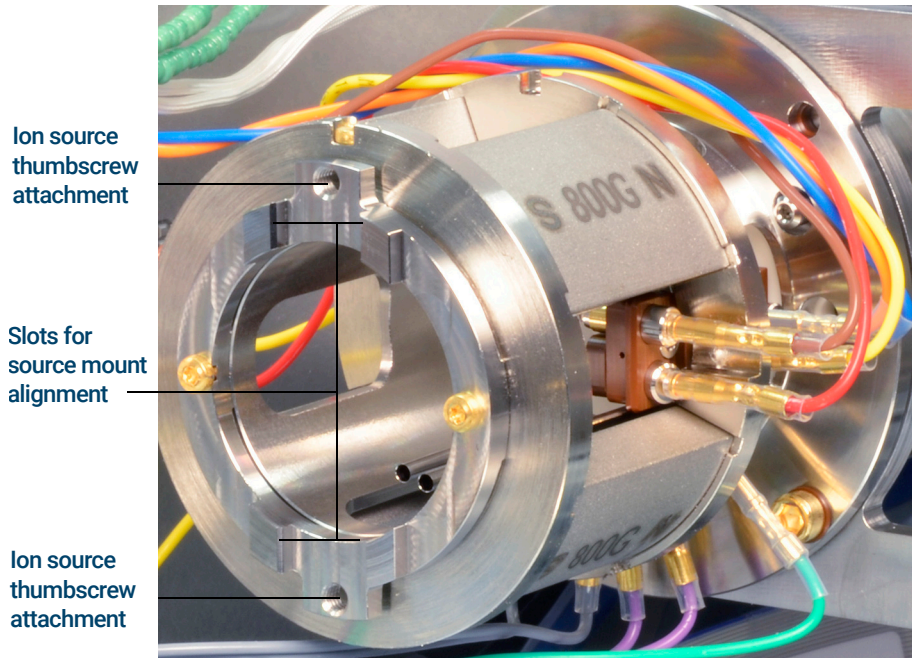

Figure 36. The ion source radiator
- 2 Align the ion source so that the slotted opening for the lens stack, where the lens numbers are visible, is on the right side. Also, position it so the two attachment tabs of the source mount align with the corresponding slots in the source radiator. (See **Figure 36**, "The ion source radiator," on page 123.) Slide the ion source into the source radiator until resistance is felt.